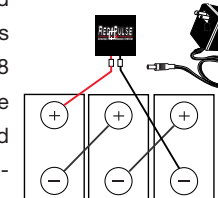

Fig. 3
Step 3, connect the RediPulse negative wire to the negative terminal on the last battery in the set (See Fig. 3 for an example of a 36-volt system install).